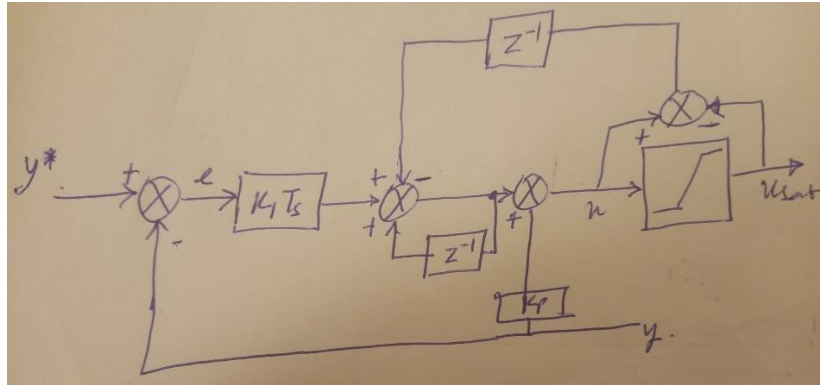

Figure 3. Control scheme of IP Discrete Controller with anti-windup.
The IP Controller is given in equation(3) and its control scheme is given in figure 3.
And the control scheme of the forward discretized system is with anti-windup is shown in Figure 3.